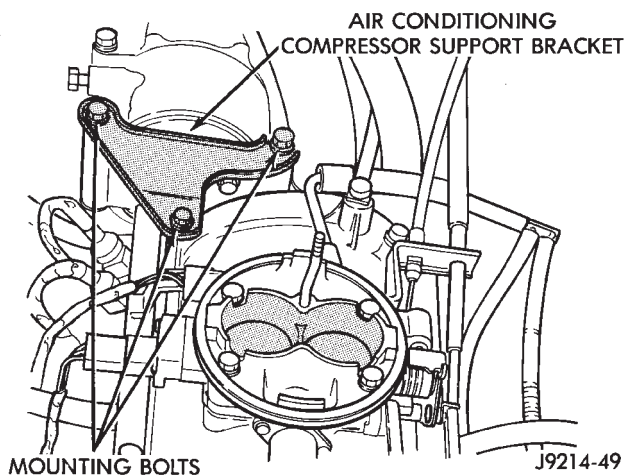

Fig. 8 A/C Compressor Support Bracket—Typical
- (1) Remove negative battery cable at battery.
- (2) Remove air duct at throttle body.
- (3) Perform the fuel pressure release procedure. Refer to the Fuel Delivery System section of this group.
- (4) Remove throttle body from intake manifold. Refer to Throttle Body removal in this group.
- (5) If equipped with air conditioning, remove the A/C compressor-to-intake manifold support bracket (three bolts) (Fig. 8).